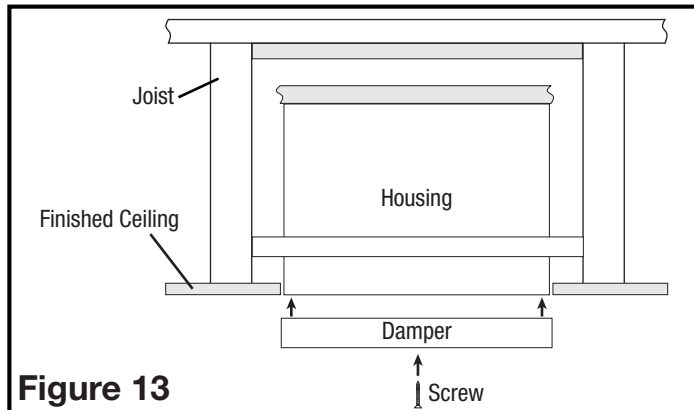

Figure 13
3. **INSTALLING THE CEILING DAMPER:** The ceiling damper supplied with the unit is designed to install only in Air King Model AKFH2 housings. Install the ceiling damper & ceiling damper frame into the opening of the fan housing. The ceiling damper frame is designed to fit on the outside of the housing and the ceiling damper will sit on the inside of the fan housing (**Figure 13**).
4. Once positioned in place secure the ceiling damper frame to the fan housing using two of the supplied #6 x 1" screws. Carefully drive the screws through the two oblong slots on the ceiling damper frame into the screw retaining lances on each side of the fan housing. Complete this step slowly as you do not want to damage the lances on the housing (**Figure 13**).